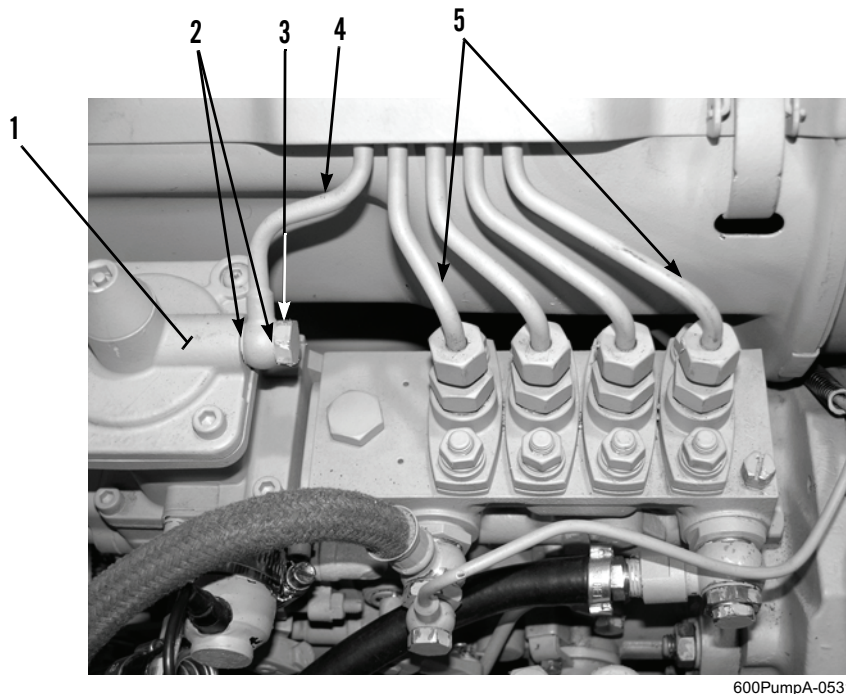

Figure 33. Fuel Injector Lines.
11. Connect four injector lines (Figure 33, Item 5) to fuel injection pump (Figure 33, Item 1). Tighten lines to 16 to 21 lb-ft (22 to 28 Nm).
12. Install new sealing washer (Figure 33, Item 2), injector line (Figure 33, Item 4), new sealing washer (Figure 33, Item 2), and fluid passage bolt (Figure 33, Item 3) to fuel injection pump (Figure 33, Item 1).